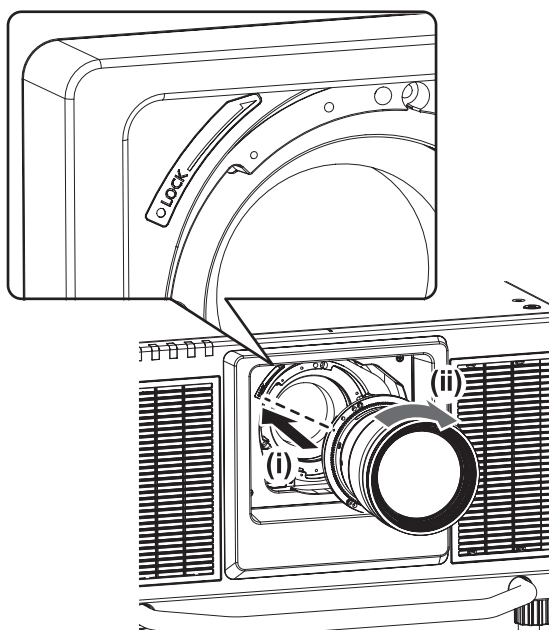

Fig. 3
**3) Insert the projection lens by aligning the mark on the projection lens (orange) with the mark on the projector (○ on the left side of LOCK) and turn clockwise until it clicks. (Fig. 3)**